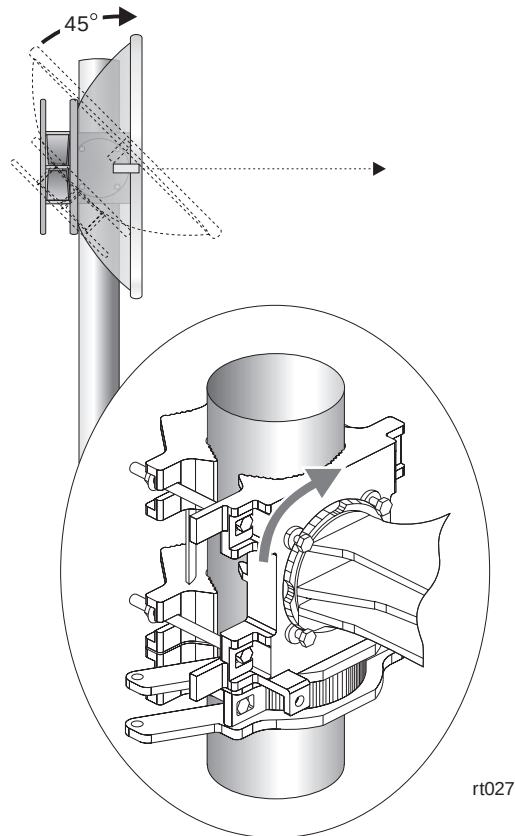

Figure 6-12 Rotating the antenna to the upright installation position
4. Rotate the antenna approximately 45° toward the HT, to the upright position, as shown in figure 6-12—then **finger tighten** the antenna bracket locking nuts so the antenna is snug and without excess movement.